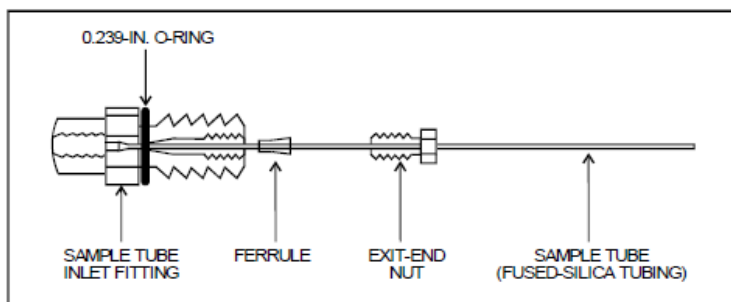

Figure 2. APCI sample tube connection.
8.1.2.3.1.1. Remove the sample tube inlet fitting, the 0.239-in. ID O-ring and the sample tube from the APCI manifold using a 3/8-in. open-end wrench. See Figure 2.